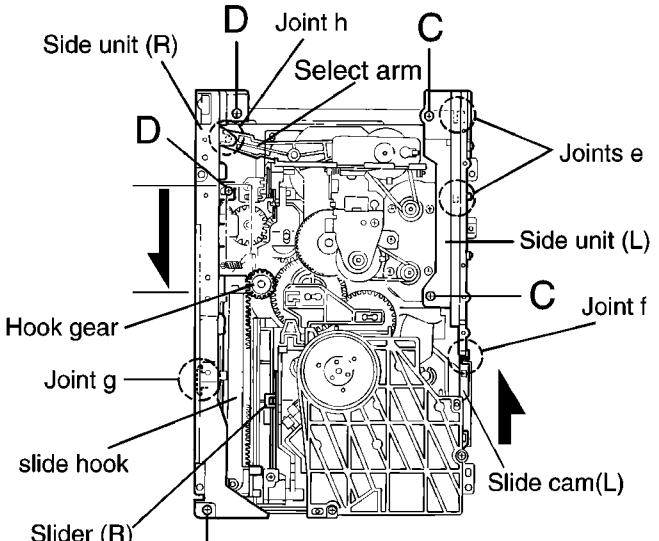

Fig.9-1
■ Removing the side unit (L) and (R) (See Fig.9-1 to 9-5)
- Remove the two screws **C** attaching the side unit (L).
- Slide and remove the side unit (L) toward the front while releasing the two joints **e** and the joint **f** with the chassis unit.
- Slide the slide cam (L) toward the front until it stops to place the sub chassis unit at the top position.